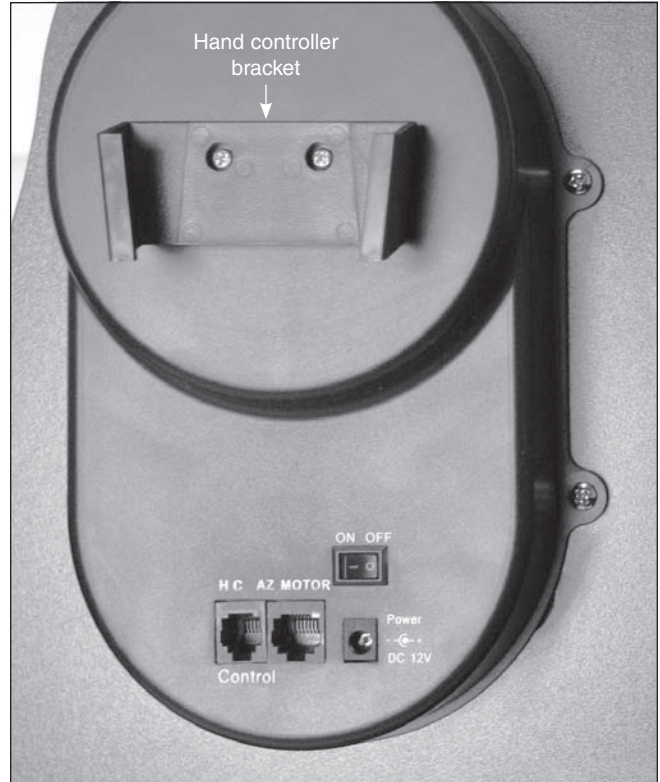

Figure 12. Altitude motor housing with hand controller bracket installed
8. The XXg base includes a bracket that holds the hand controller when it's not in use. The bracket mounts on the altitude motor housing (**Figure 12**). Locate the two small pilot holes and attach the bracket using the small screws included with the bracket until just barely tight. *Do not over-tighten these screws or you'll strip the holes!*
9. Now install the azimuth motor connection cable. It is a flat cable that has an 8-pin RJ-45 plug on both ends. Plug one end into the jack on the azimuth motor housing on the top baseplate; plug the other end into the jack labeled AZ MOTOR on the altitude motor housing (**Figure 12**).
10. Finally, connect the GoTo hand controller. Plug the wide RJ-45 connector on the coiled hand controller cable into the corresponding port on the hand controller. Plug the smaller RJ-12 connector into the port labeled HC on the altitude motor housing (**Figure 12**).